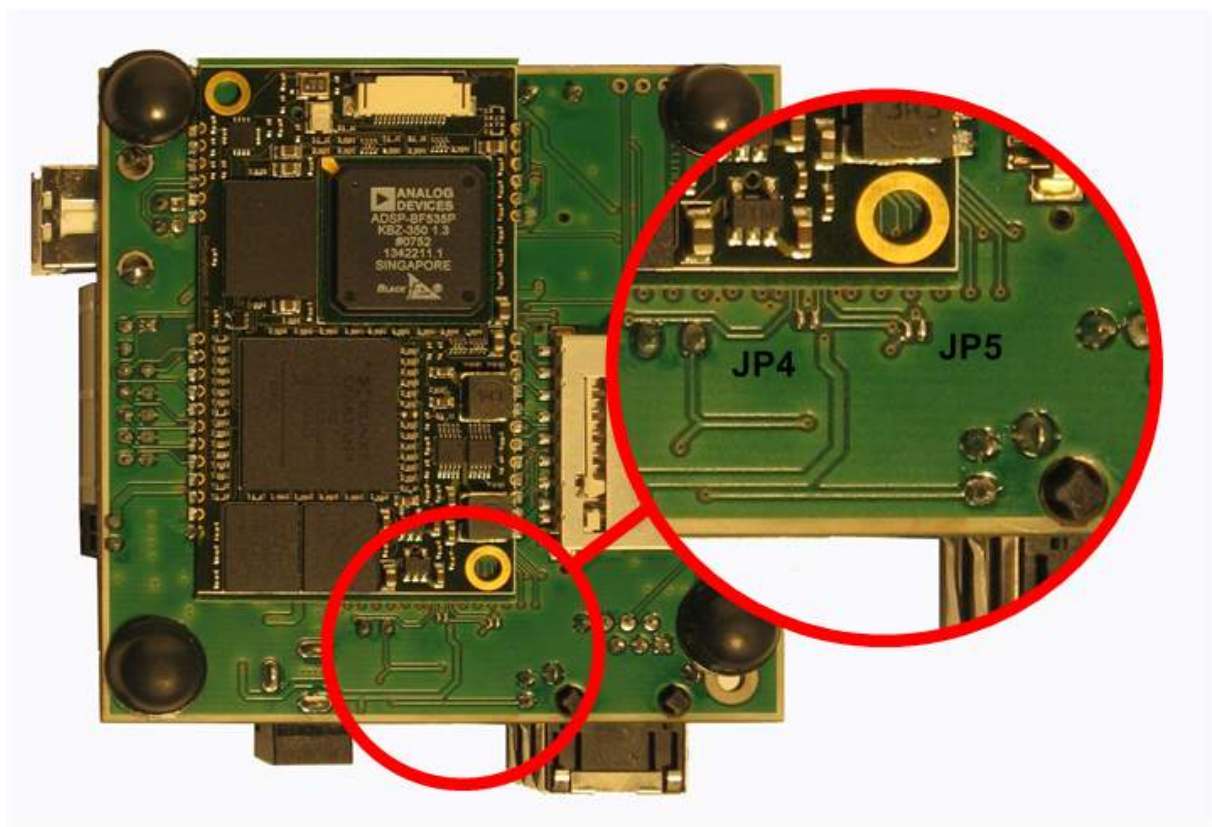

Figure 4-1: Position of JP4 and JP5
***) Note:** Pin 17 and pin 44 of the X7 connector are not connected, unless the solder jumper JP4 and JP5 are mounted on the bottom of the DEV-BF5xx-Lite board. The signals of pin 77 and pin 104 of the inserted Core Module are routed directly to the USB connector X9 on the DEV-BF5xx-Lite board. Figure 4-1 shows the position of JP4 and JP5. JP4 connects pin 17 and JP5 connects pin 44 see Figure 4-1.